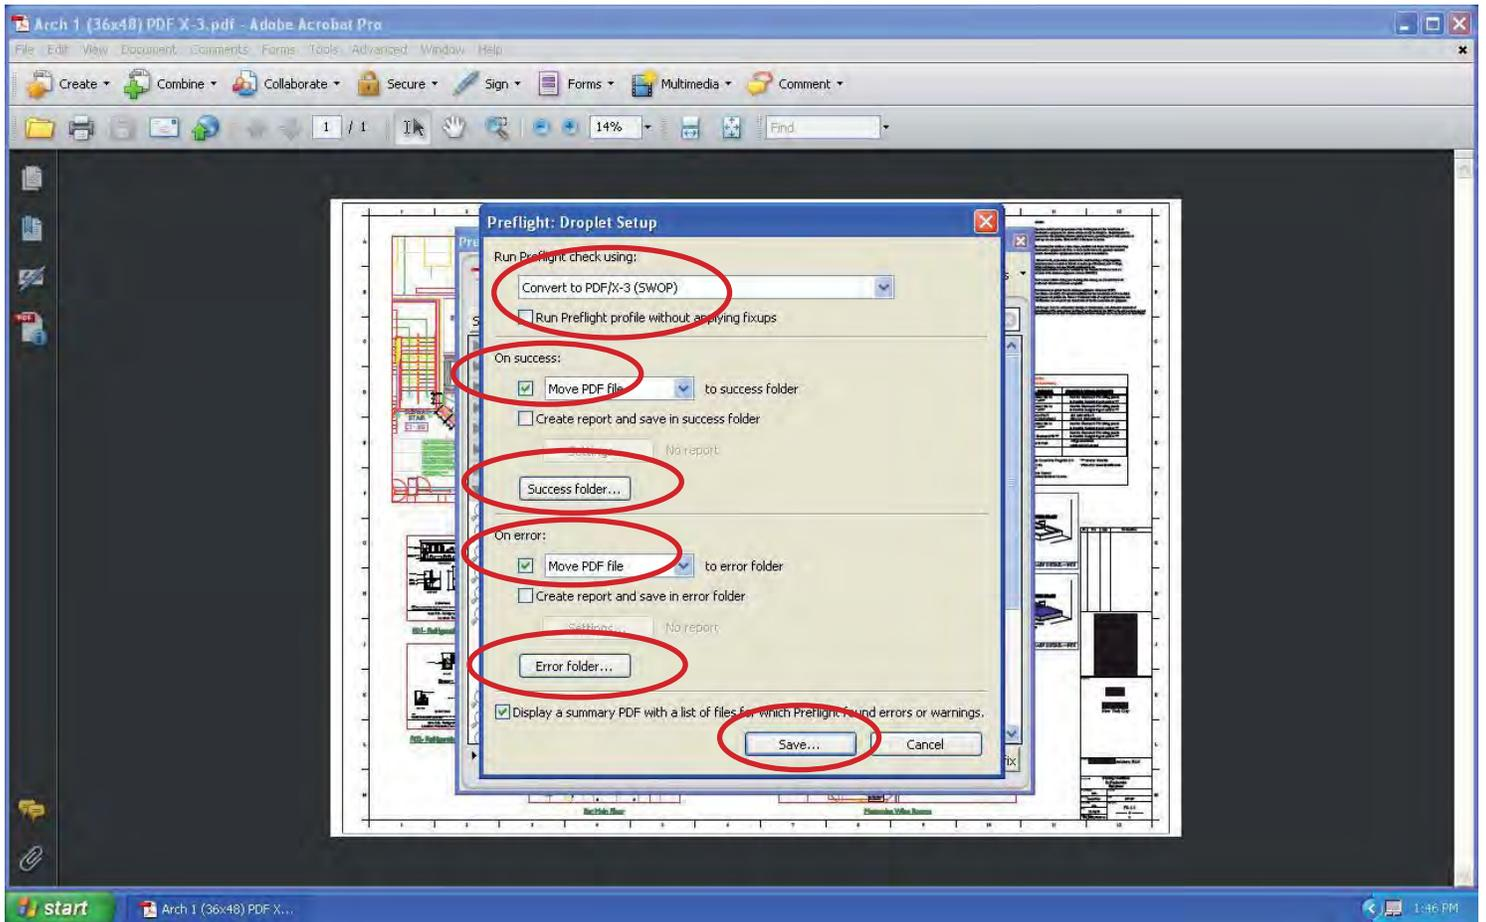

Fig. 8
1. Select Preflight from the Advanced menu. (Fig 8).